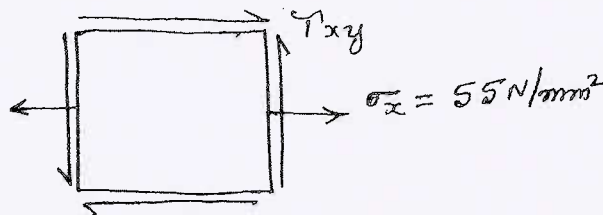

Fig.Q1(b)
b. The state of stress at a point in a strained member is shown in Fig.Q1(b). The tensile principal stress is known to be  $84 \text{ N/mm}^2$ . Determine: